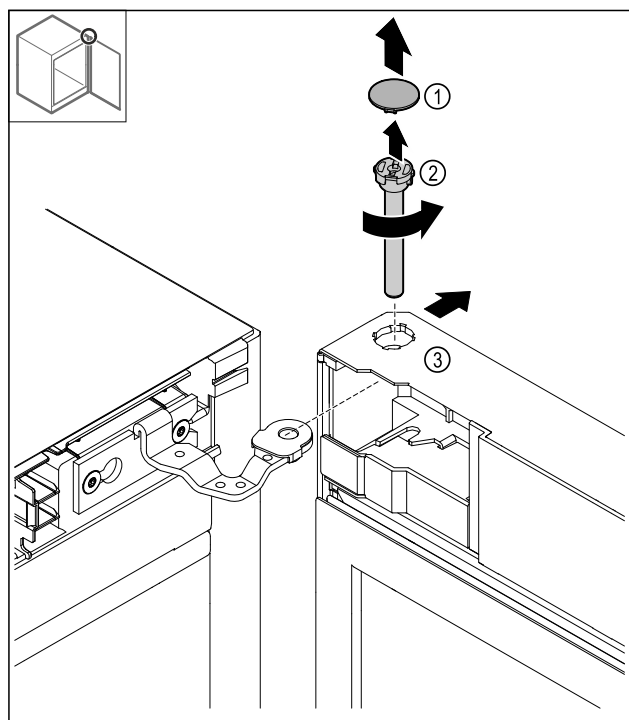

Fig. 13
- Removing the cover Fig. 13 (1).
- Loosen the bolt Fig. 13 (2) anti-clockwise and pull it out.
- Tilt the door Fig. 13 (3) slightly.